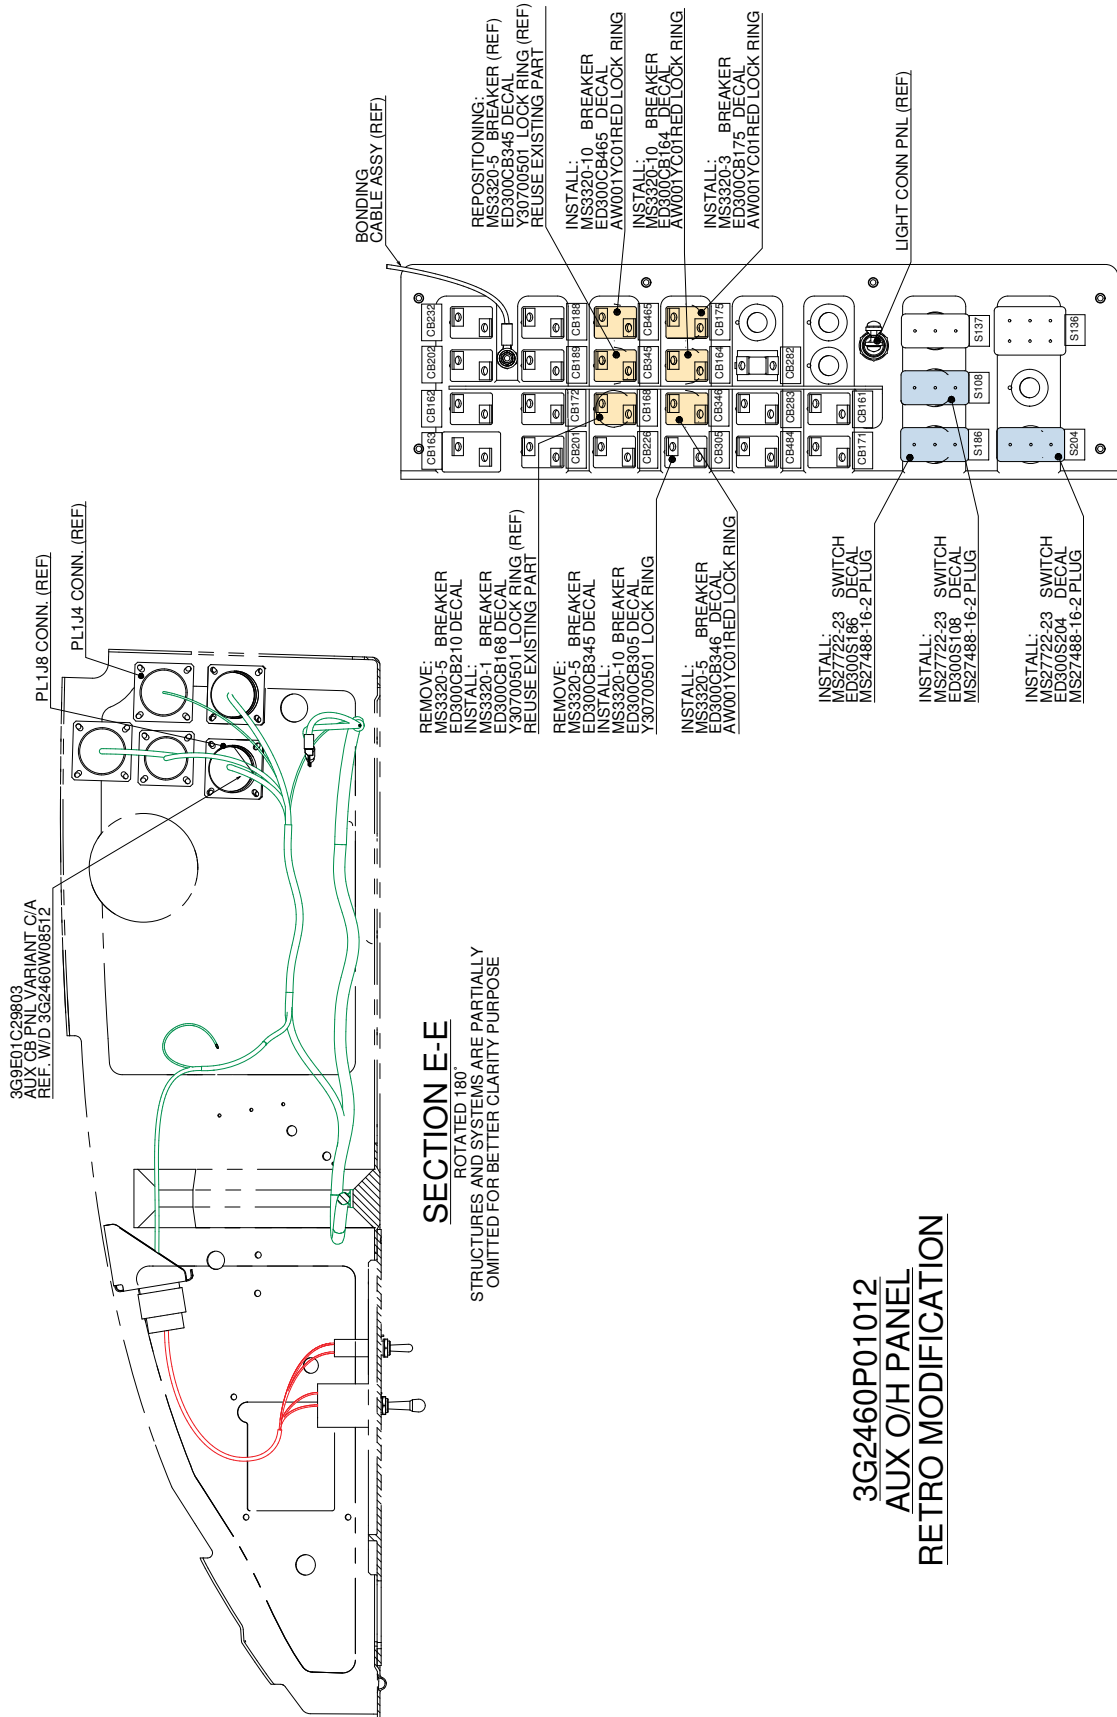

Figure 9
- 6.7 In accordance with AMP DM 39-A-11-00-01-00A-720A-A and with reference to Figure 9 detail C, install decals P/N P/N ED300S108, P/N ED300S186, ED300S204 in an area adjacent to previously installed switches.
- 6.12 With reference to Figure 9 and Figure 18 wiring diagram, perform the electrical connection of C/A E1C298 between connector PL1J2, switch S108, CB168 and 28 VDC Main BUS 2 W22D.
- 6.13 With reference to Figures 9, 10 and Figure 16 wiring diagram, perform the electrical connection of C/A E1C298 between connectors PL1J4, PL1J5, PL1J8, switches S204, S186, terminal board TB504, circuit breakers CB305, CB346, 28VDC Main BUS 1 W21D and terminal board TB511-1.
- 6.14 With reference to Figures 9, 10 and Figure 16 wiring diagram, perform the electrical connection of C/A E1C298 between connectors PL1J4, PL1J7, PL1J9, terminal board TB504, circuit breakers CB465, CB175, CB164, 28VDC Main BUS 2 W22E, 28VDC NON ESS BUS 1 W11B, 28VDC Main BUS 2 W22B, terminal board TB511-2 and 28VDC NON ESS BUS 1 W11A.
- 7.11 With reference to Figures 9, 10 and Figure 16 wiring diagram, perform the electrical connection of C/A E1C298 between connectors PL1J4, PL1J5, PL1J8, switches S204, S186, terminal board TB504, circuit breakers CB305, CB346, 28VDC Main BUS 1 W21D and terminal board TB511-1.
- 7.12 With reference to Figures 9, 10 and Figure 16 wiring diagram, perform the electrical connection of C/A E1C298 between connectors PL1J4, PL1J7, PL1J9, terminal board TB504, circuit breakers CB465, CB175, CB164, 28VDC Main BUS 2 W22E, 28VDC NON ESS BUS 1 W11B, 28VDC Main BUS 2 W22B, terminal board TB511-2 and 28VDC NON ESS BUS 1 W11A.